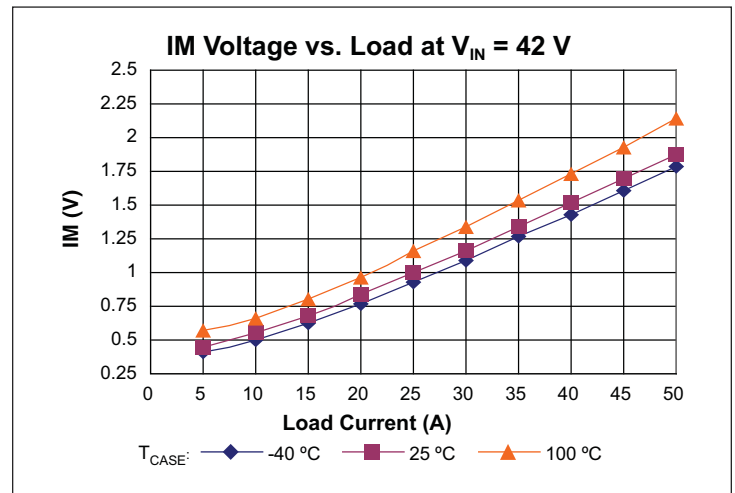

Figure 8 — IM voltage vs. load
Current Monitor (IM) pin provides a voltage proportional to the output current of the VTM module. The nominal voltage will vary between 0.39 V and 1.86 V over the output current range of the module (See Figures 8–10). The accuracy of the IM pin will be within 25% under all line and temperature conditions between 50% and 100% load.